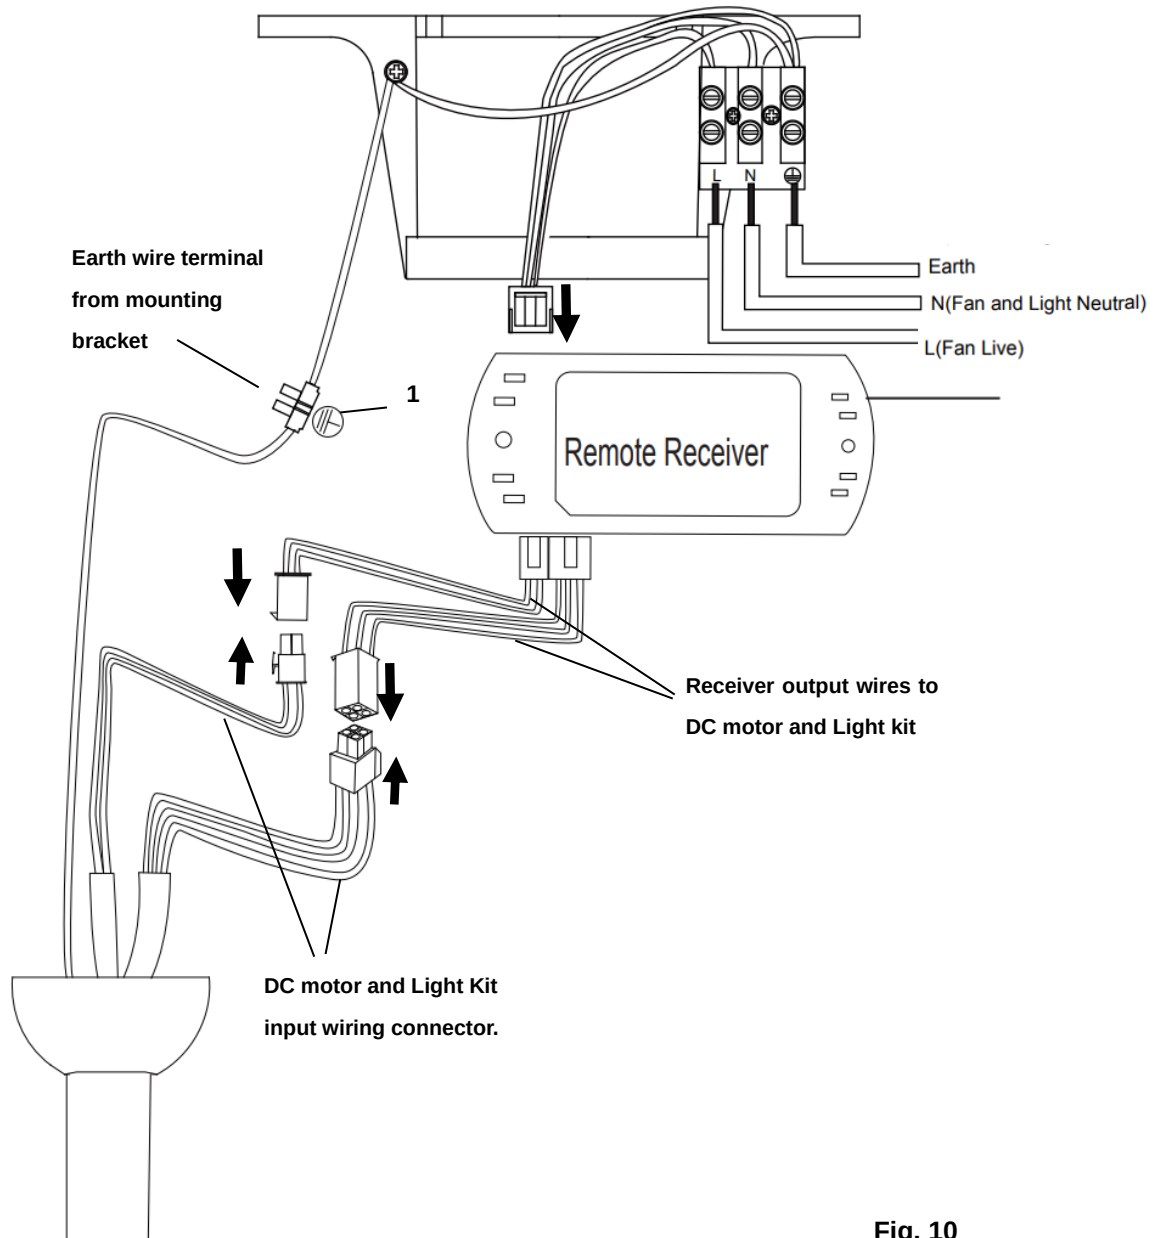

Fig. 10
**ELECTRICAL WIRING DIAGRAM THE FAN****PREPARE AND COMPLETE THE ELECTRICAL WIRING --- WIRING DIAGRAM (FIG. 10)**
Ensure the motor earth wire is connected to the single earthing terminal block "1" in the diagram below. (Fig. 10)
**From mains supply to mounting bracket terminal block:** (Fig. 10)
**From mounting bracket to receiver and motor :** (Fig. 10)